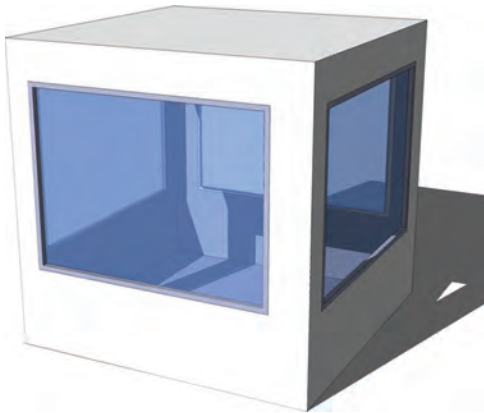

Fig. 9-9: Copy the component around the cube sides.
11. Copy (Edit > Copy) and Paste (Edit > Paste) the window and place it around the cube. Notice how it cuts a hole in the surface, allowing the other placed windows to be visible (Fig. 9-9).